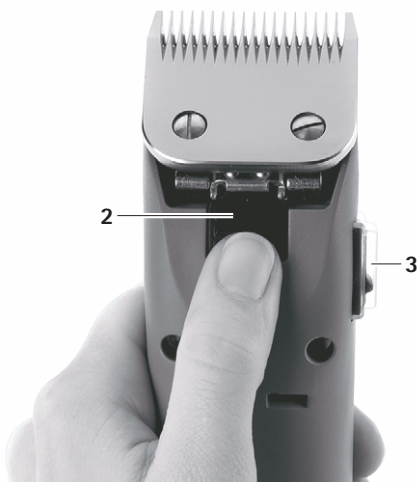

Fig. 4
- Press ON/OFF switch 3 to switch off Clipper FAV5, see Fig. 4.
- Press clipper blade lock 2, see Fig. 4.